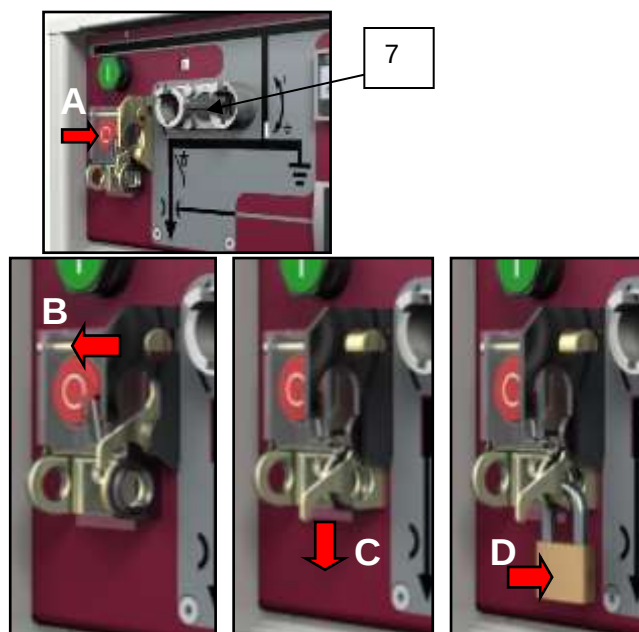

Figure 4-13
The interlock is used as follows, see Figure 4-13
1. Turn the selector (7) anti clockwise.
2. Place the cover flap fully in front of the opening button (A)
3. Pull part B to the front, part C will automatically move downward and part B stays in position (Figure 4-13 C).
4. Put the hasp of the padlock (D) through the hole on the right (Figure 4-13 D).
1. Remove the padlock D (Figure 4-13 D).
2. Push part C upwards, part B will automatically move backwards (Figure 4-13 C).